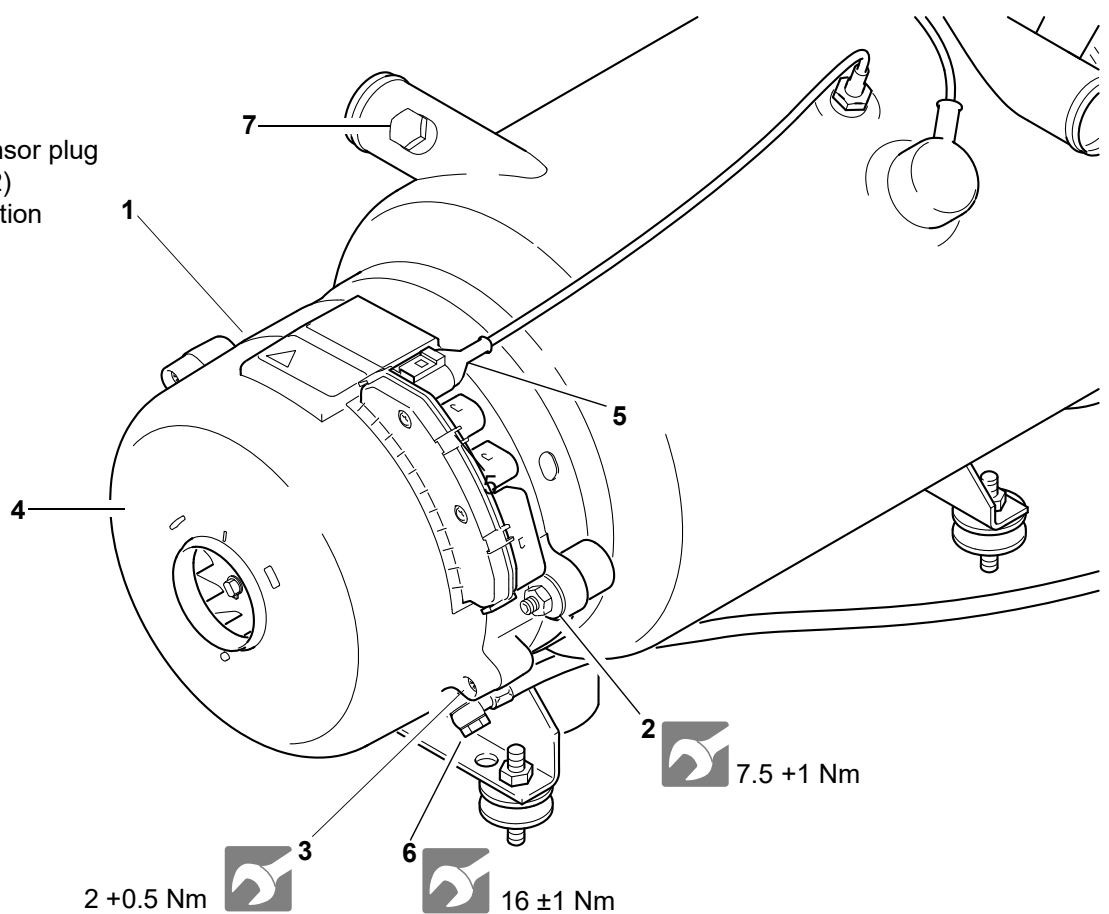

Fig. 809 Burner head / hood removal and installation
4. Disconnect temperature sensor plug (5, Fig. 809) from control device.
1. Bring burner (1, Fig. 809) in assembly position and ensure center alignment and correct fit.
2. Place nuts (2) and alternately tighten them slightly.
3. Tighten nuts (2).
4. If applicable, bolt fuel lines down using hollow screws (6) and new gaskets, or slide on fuel lines and secure with hose clamps.
2. Loosen screws (3, Fig. 809).
3. Remove hood (4).
1. Position hood (4, Fig. 809) in assembly position. Ensure center alignment, proper fit and seal towards heater wiring harness and cable grommet of the temperature sensor.
2. Screw in screws (3) and tighten.
12. Remove the screw plug (7, Fig. 809).
3. Screw the plug screw (7, Fig. 809) in and tighten it.